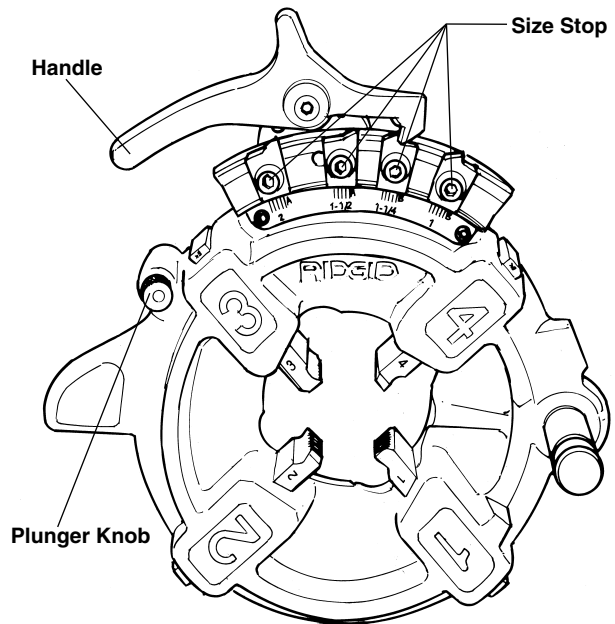

Figure 9 – Semi-Automatic Die Head
Semi-automatic die head (Figure 9) – When the end of the pipe being threaded is flush with the end of the number 1 die, hit the handle for the dies to release the pipe.
The Semi-Automatic Die Head (*Figure 9*) for right hand threads requires four sets of dies to thread pipe ranging from 1/8" through 2". One set of dies is required for each of the following pipe size ranges: (1/8", 1/4" and 3/8"), (1/2" and 3/4") and (1" through 2"). Bolt threading requires a separate set of dies for each bolt size.
- Depress handle so that cam plate rests (*Figure 9 – Model 816/817 Die Head*) against the stop (as shown).